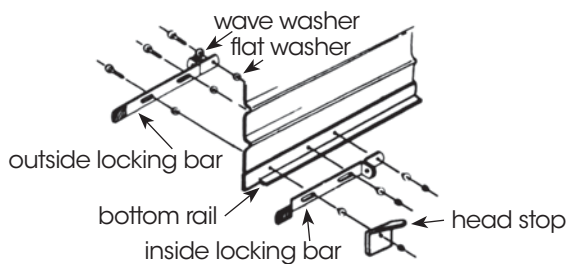

Fig: 2.6.6
- a) For fitting optional padbolt type locking, refer to Fig 2.6.6.